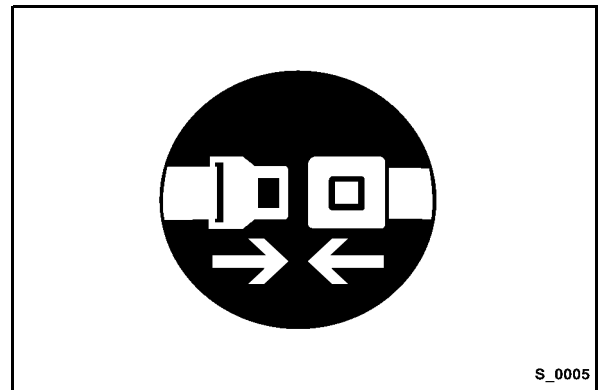

Fig. 46
- Fasten your seat belt (Fig. 46).